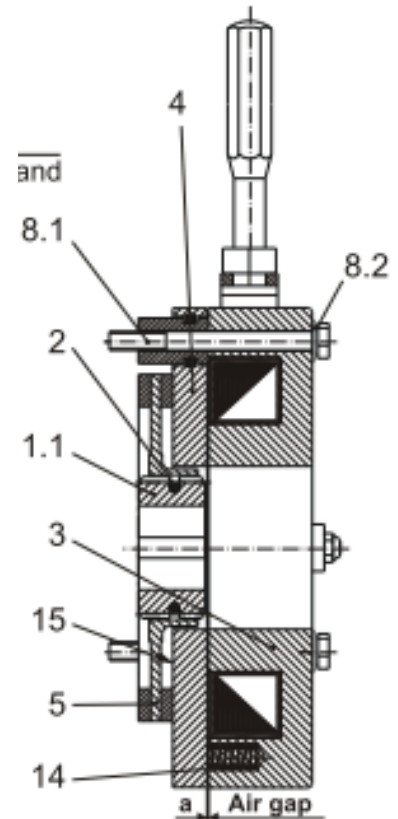

Figure 2
- a. Inspection of air gaps "a" (min. 3x per year). See Figure 2.